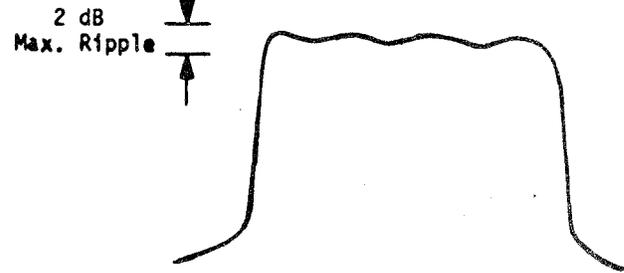

Figure 4-5. IF Response
- d) Turn unit ON, and adjust T101 and T102 for a bandpass response similar to Figure 4-5. Ripple should be NOT MORE than 2 db, and is generally 1 dB or less. If necessary, the value of R104 may be changed to improve filter response.